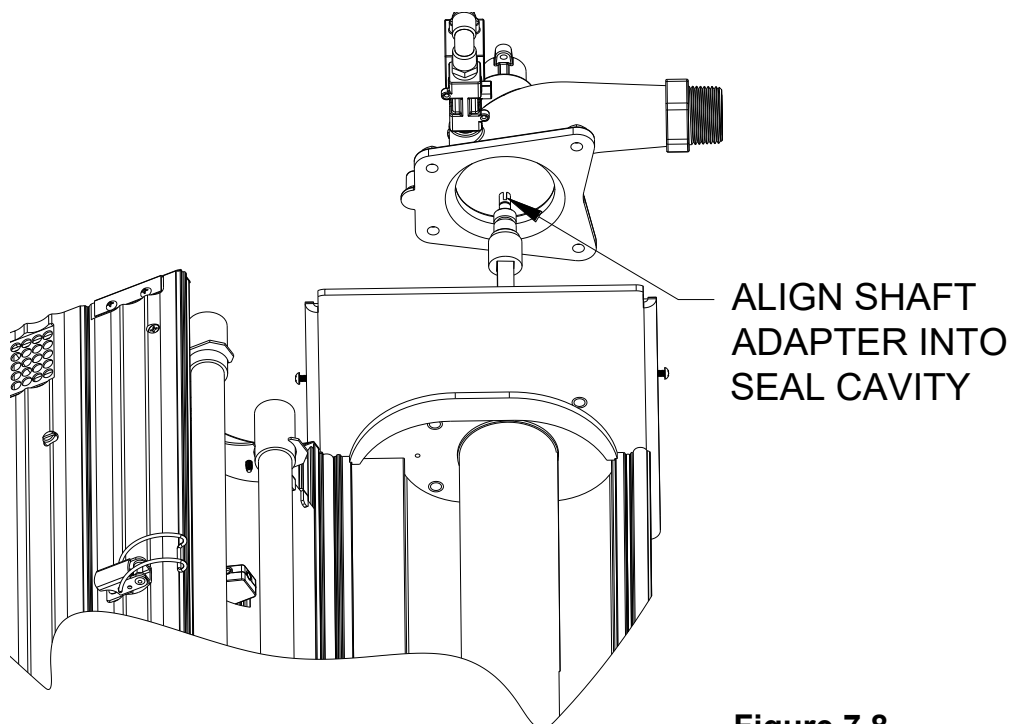

Figure 7.8
Step 3: Once the quartz sleeve is clean, reassemble the unit (see Figure 7.8). Replace any seals that appear to have been damaged.
Step 2: Ensure the quartz O-ring seal is in place around the quartz sleeve and then replace the top manifold by aligning the shaft adapter into the seal cavity of the top manifold (see Figure 7.8).